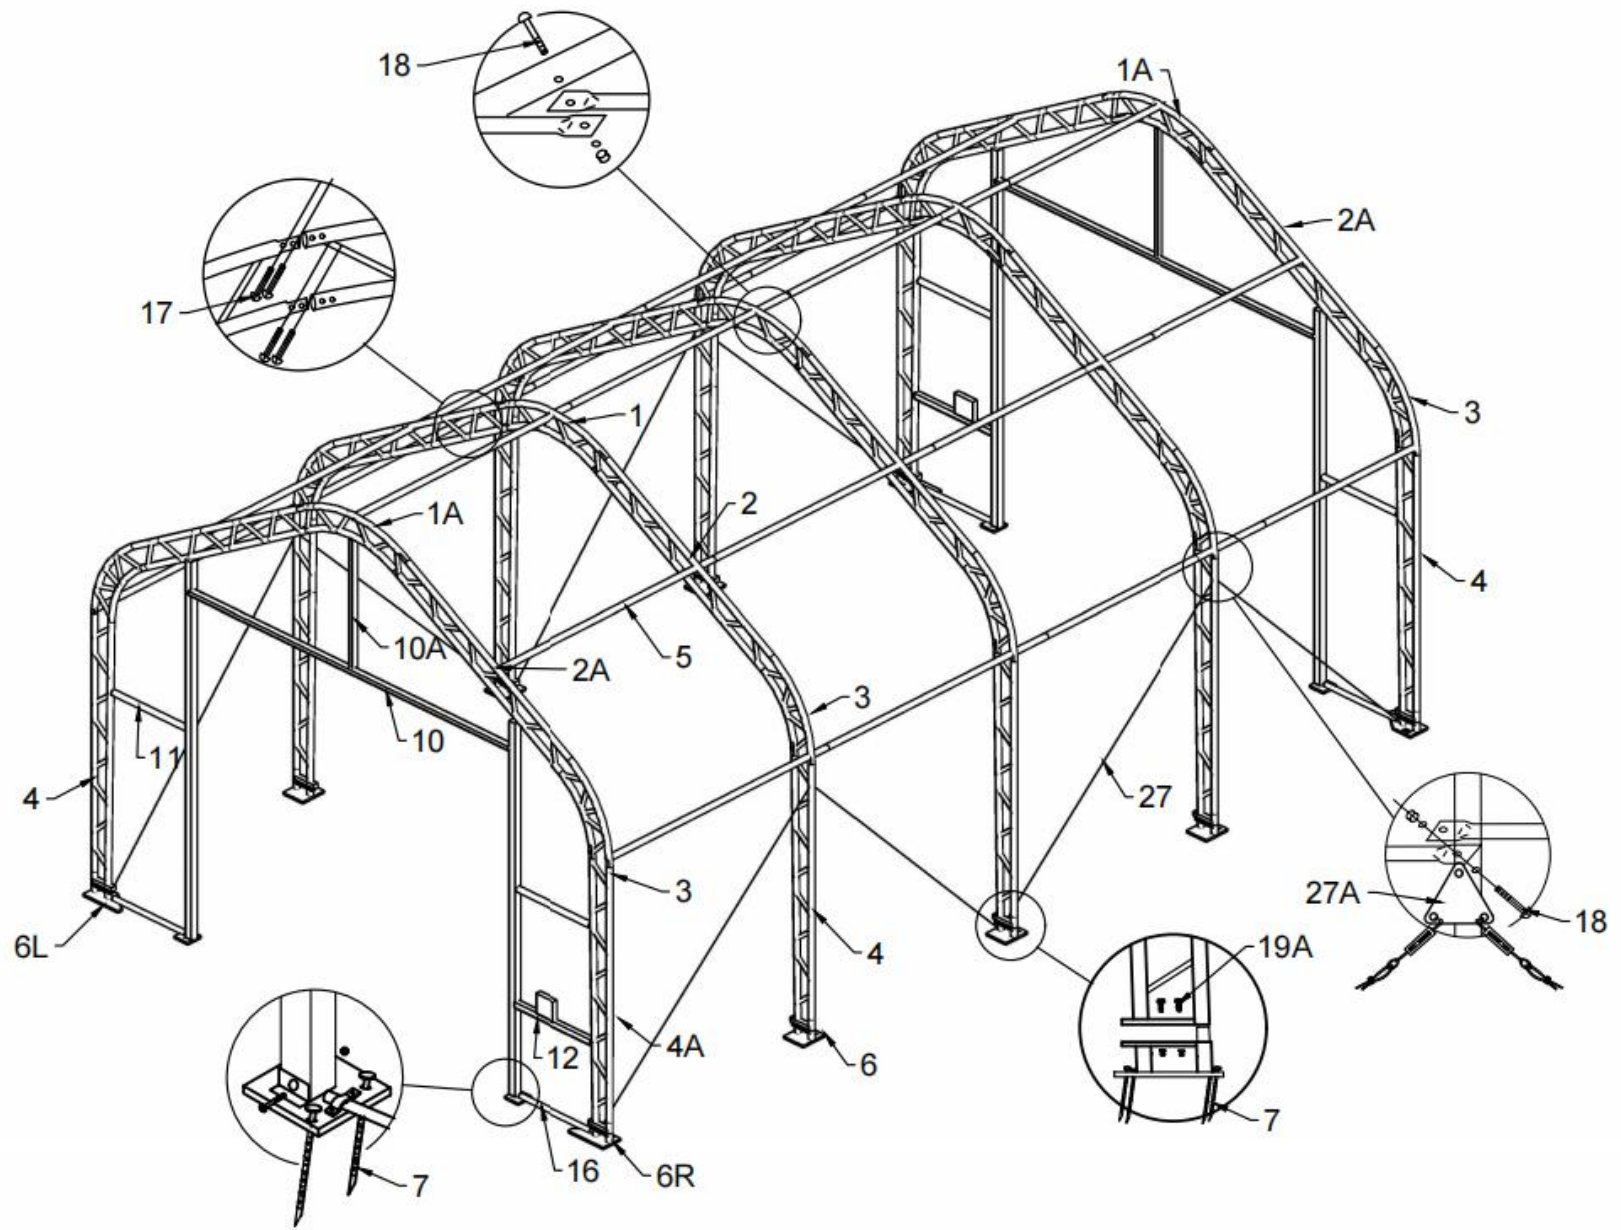
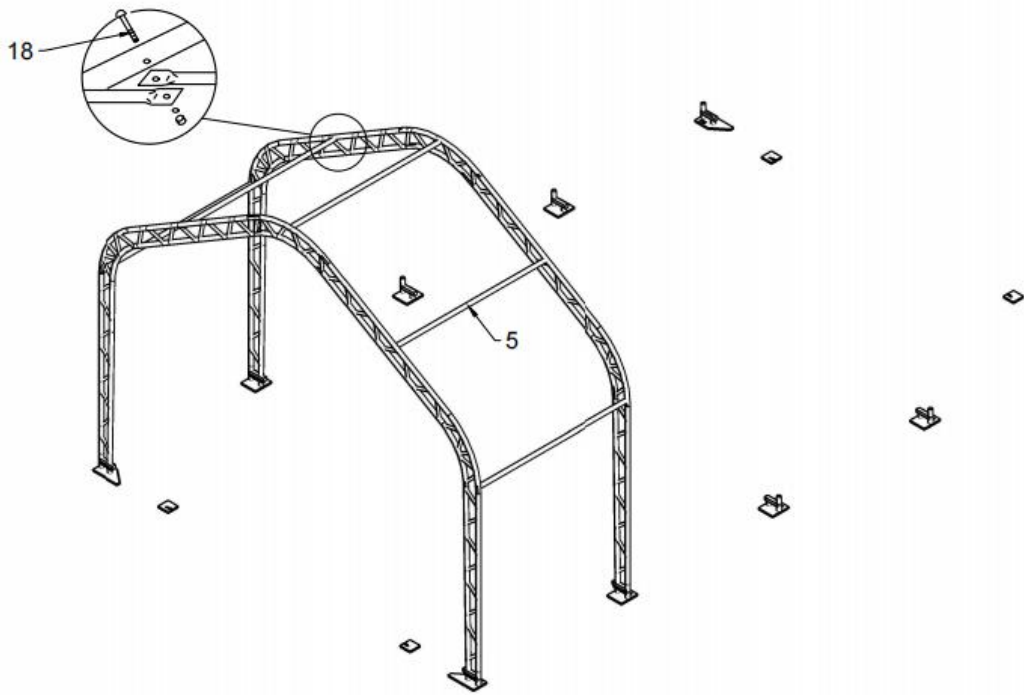

Figure 1: Frame Sketch
Figure 5
3. Connect Purlin (No. 5) to arch by using Carriage bolt M8*80mm (No. 18) by turns (see Figure 5), then connect the Steel wire (No. 27) on top and side by using Clip (No. 26) and Iron Triangle Plate (No. 27A) (see Figure 1).